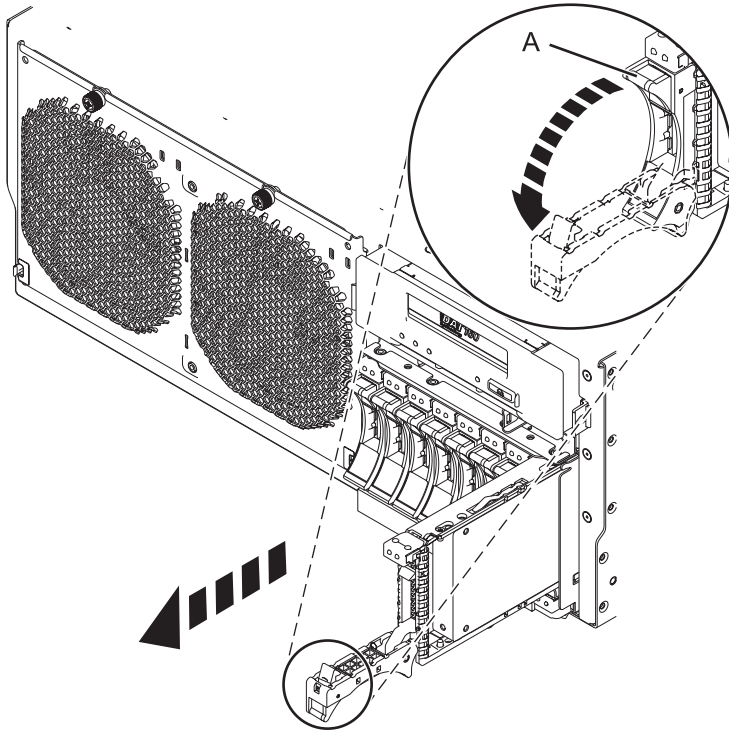

Figure 3. Removing the disk drive from the backplane
- 2) Place one hand under the disk drive and carefully pull the drive out of the system as shown in Figure 3 on page 6.